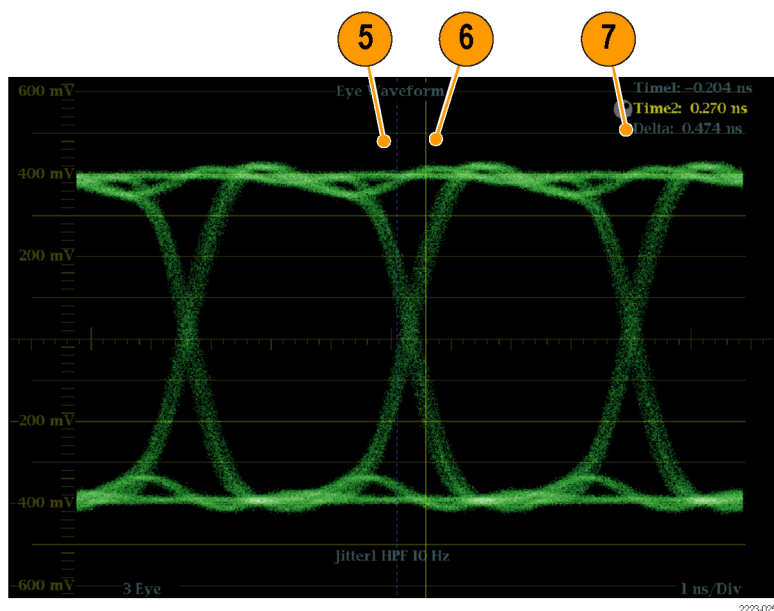

Figure 58: Measuring rise time using variable gain in Eye
5. Position the first timing cursor at the crossing of the rising edge of the Eye waveform and the graticule line two divisions above the bottom of the waveform. (See Figure 58.)
6. Position the second time cursor at the crossing of the rising edge of the Eye waveform and the graticule line two divisions below the top of the waveform. (See Figure 58.)
7. Note the 20 – 80% rise time measurement displayed in the Delta time readout. (See Figure 58.)